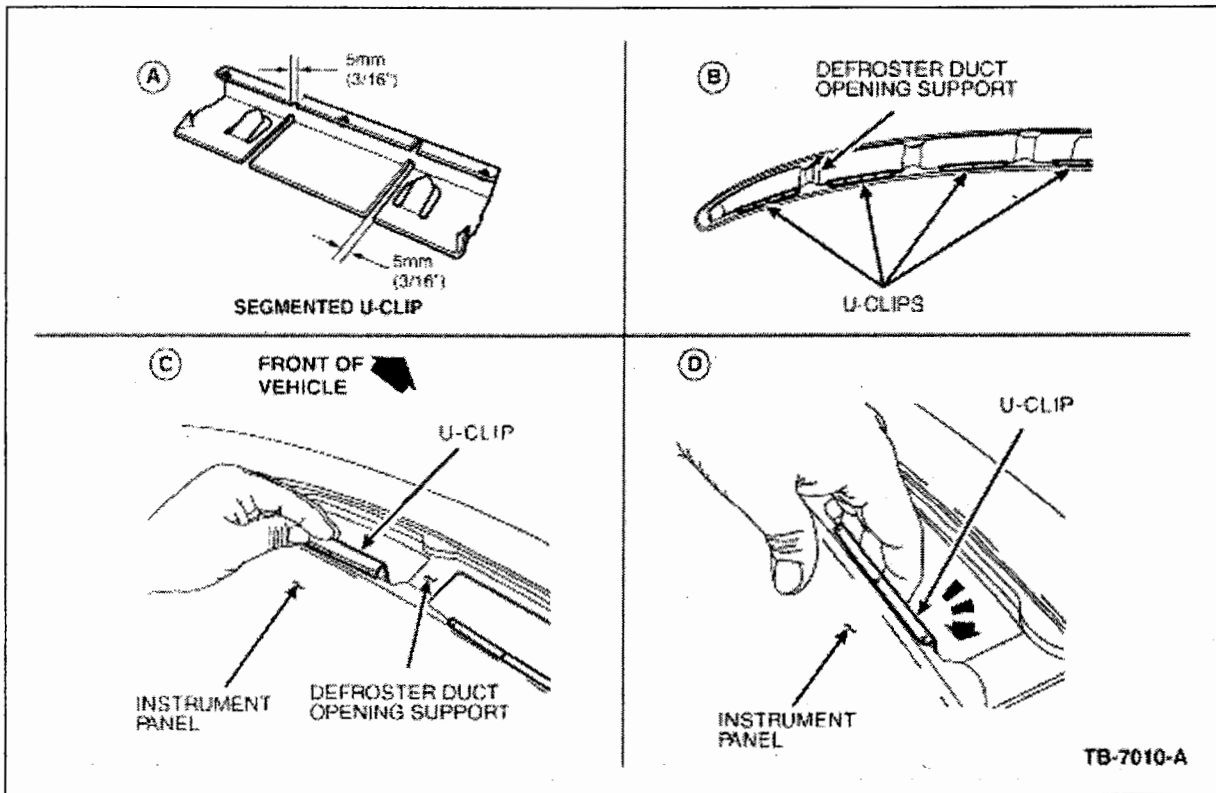

Figure 9 - Article 03-4-6
- Be sure the clips you are using are the segmented type as in Figure 9, View A
- Obtain the necessary U-clips from the repair kit. Using segmented U-clips, bend them slightly to match the curve of the defroster duct opening. Installing U-clips in the outermost defroster duct openings, make sure to install them flush against the opening support as indicated in Figure 9, View B
- Position the U-clips in the defroster duct opening as indicated in Figure 9, View C
- Snap the U-clips into place by "rolling" them around the edge of the defroster duct opening as indicated in Figure 9, View D